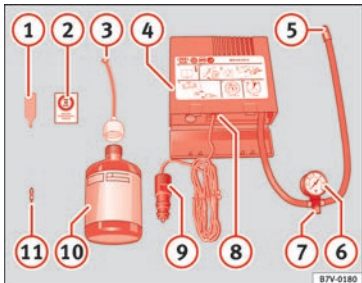

Fig. 54 Standard representation: contents of the anti-puncture kit.
- Unscrew the tyre valve cap and insert. Use the » Fig. 54 ① tool to remove the insert. Place it on a clean surface.
- Shake the tyre sealant bottle vigorously » Fig. 54 ⑩.
- Screw the inflator tube » Fig. 54 ③ into the sealant bottle. The bottle's seal will break automatically.
- Remove the lid from the filling tube » Fig. 54 ③ and screw the open end of the tube into the tyre valve.
- Place the insert back into the tyre valve using the tool » Fig. 54 ①.
- Screw the compressor tyre inflator tube » Fig. 54 ⑤ into the tyre valve.
- Check that the air bleed screw is closed » Fig. 54 ⑦.
- Insert the connector » Fig. 54 ⑨ into the vehicle's 12-volt socket » page 124.
- Turn the air compressor on with the ON/OFF switch » Fig. 54 ⑧.